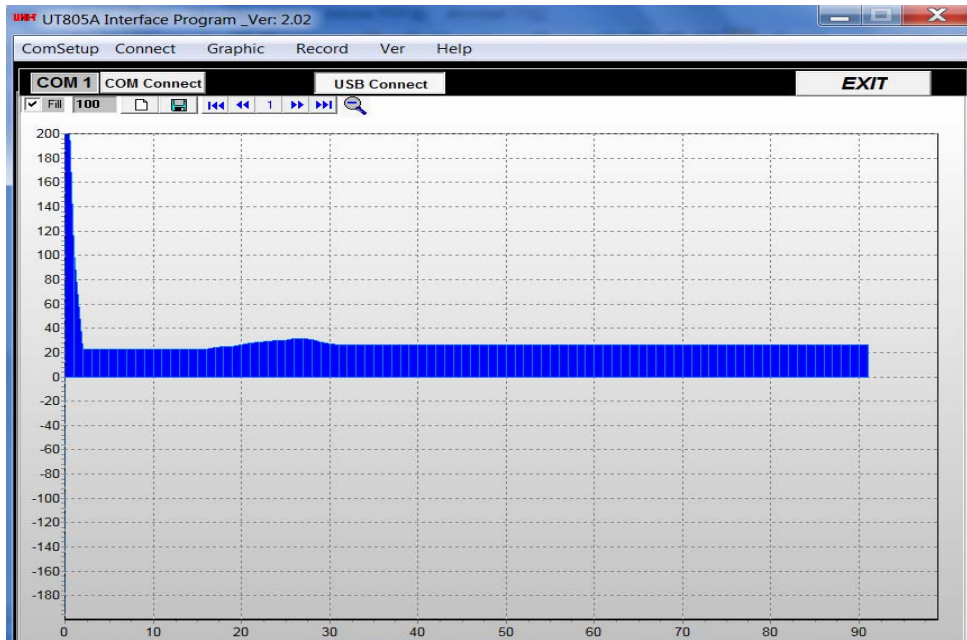
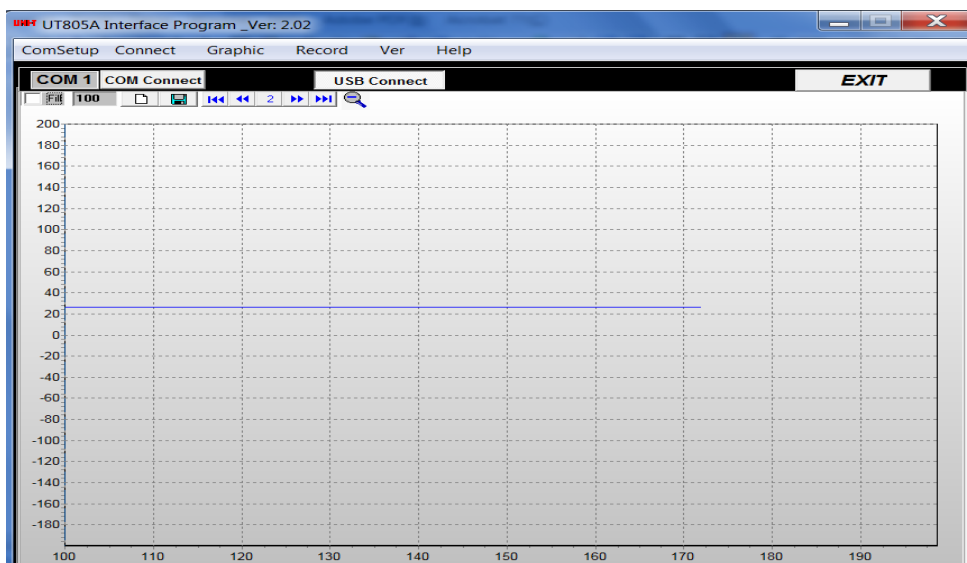

Figure19
Figure 20
6.2 The sketch can enlarge the processing, such as the figure 19.
Mean software draw of data sketch is an adoption to fill the way or line form methods. Figure 19 for fill Way, but figure 20 is a line form method